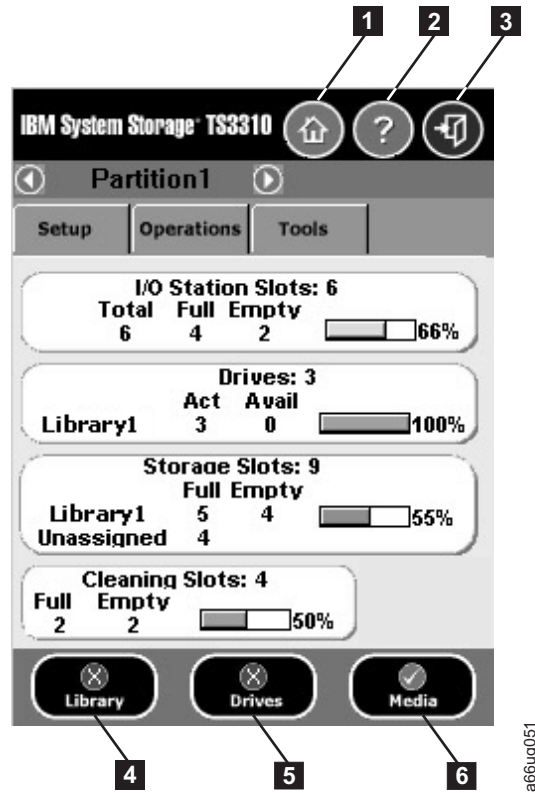

Figure 5-1. Operator Panel common header elements and subsystem status buttons
- **Home** (1 in Figure 5-1) - displays the default **Capacity View** screen.
- **Help** (2 in Figure 5-1) - context-sensitive help for the associated page
- **Logout** (3 in Figure 5-1) - ability to log out
- **Library** (4 in Figure 5-1)- opens a library menu selection screen and then the operator interventions for the library.
- **Drives** (5 in Figure 5-1)- opens the operator intervention screen for drives.
- **Media** (6 in Figure 5-1)- opens the operator intervention screen for media.